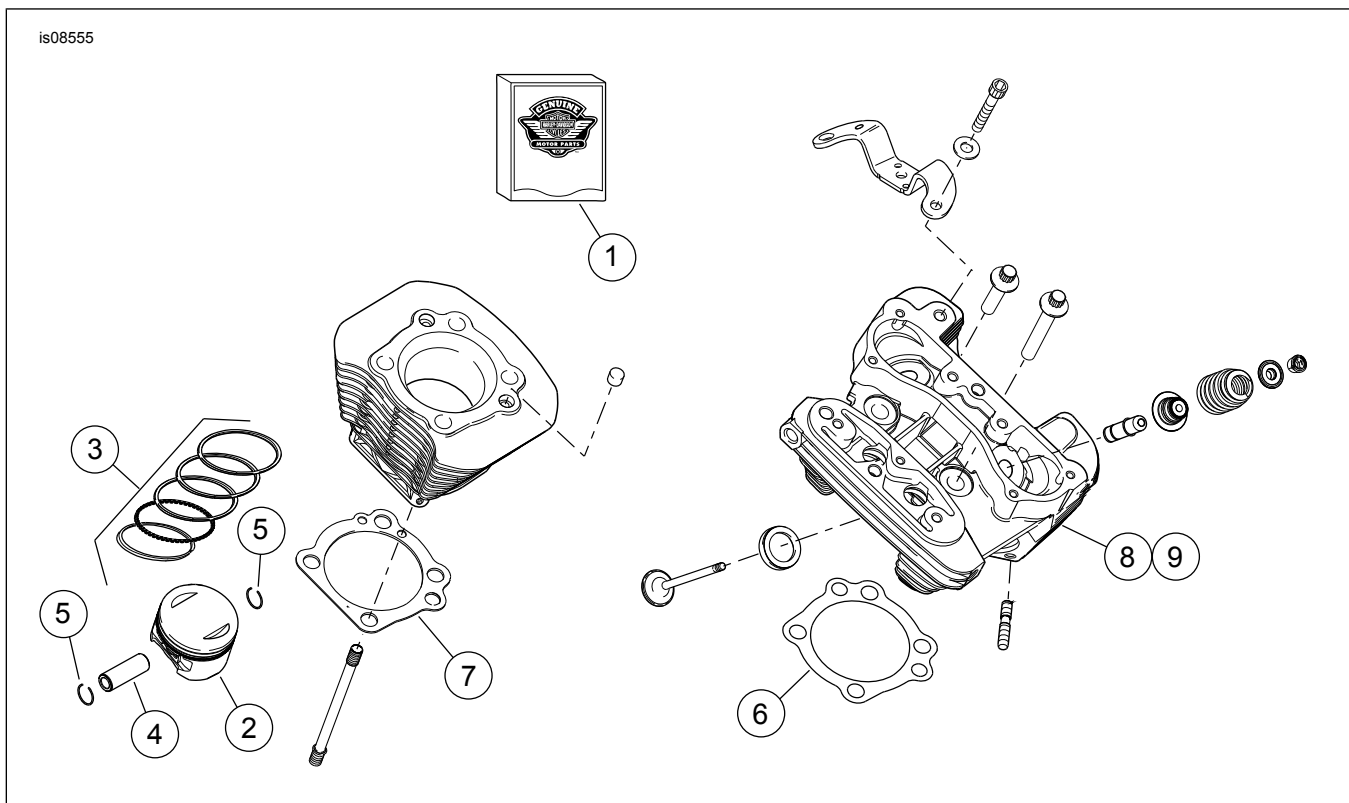
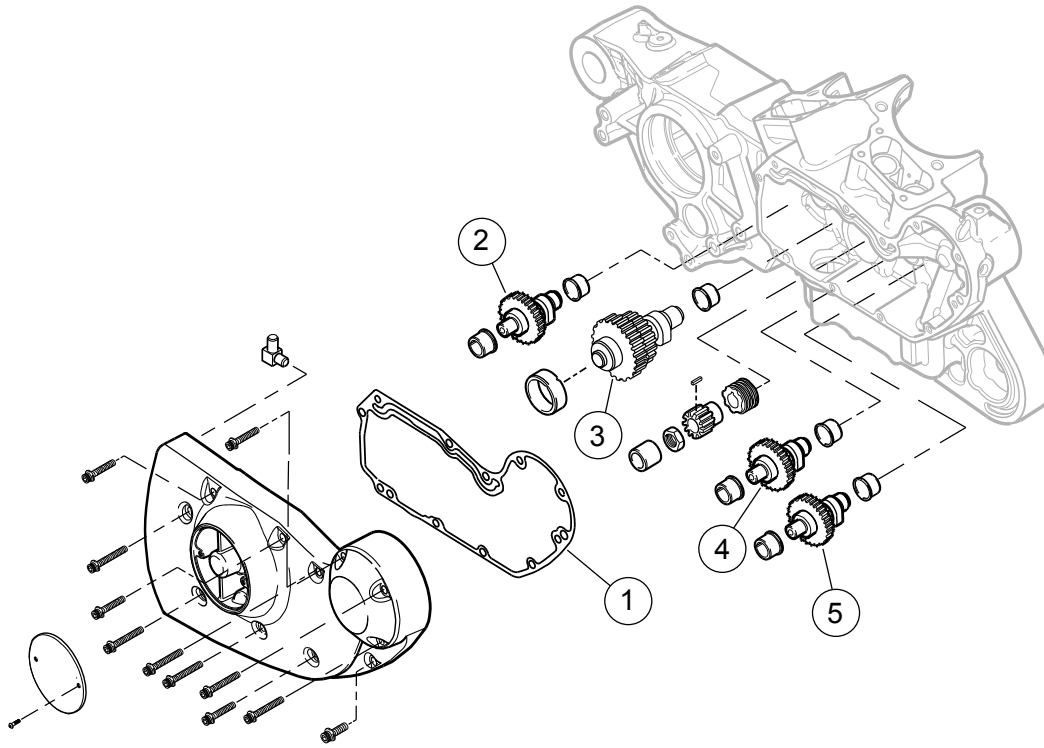

Figure 1. Service Parts: Screamin' Eagle Pro XL 1200 cc Stage 4 Kit
Figure 3. Service Parts: Screamin' Eagle Pro XL 1200 cc Stage 4 Kit
See Figure 1 to Figure 3, and Table 1 to Table 3.
1. See Figure 3. Inspect camshaft bushings and replace if necessary. Refer to appropriate ENGINE sections in service manual.
2. See Figure 1 through Figure 3. Assemble cams, performance cylinder heads and engine top end using parts from kit. Refer to appropriate ENGINE sections in service manual and instructions in sub kits.